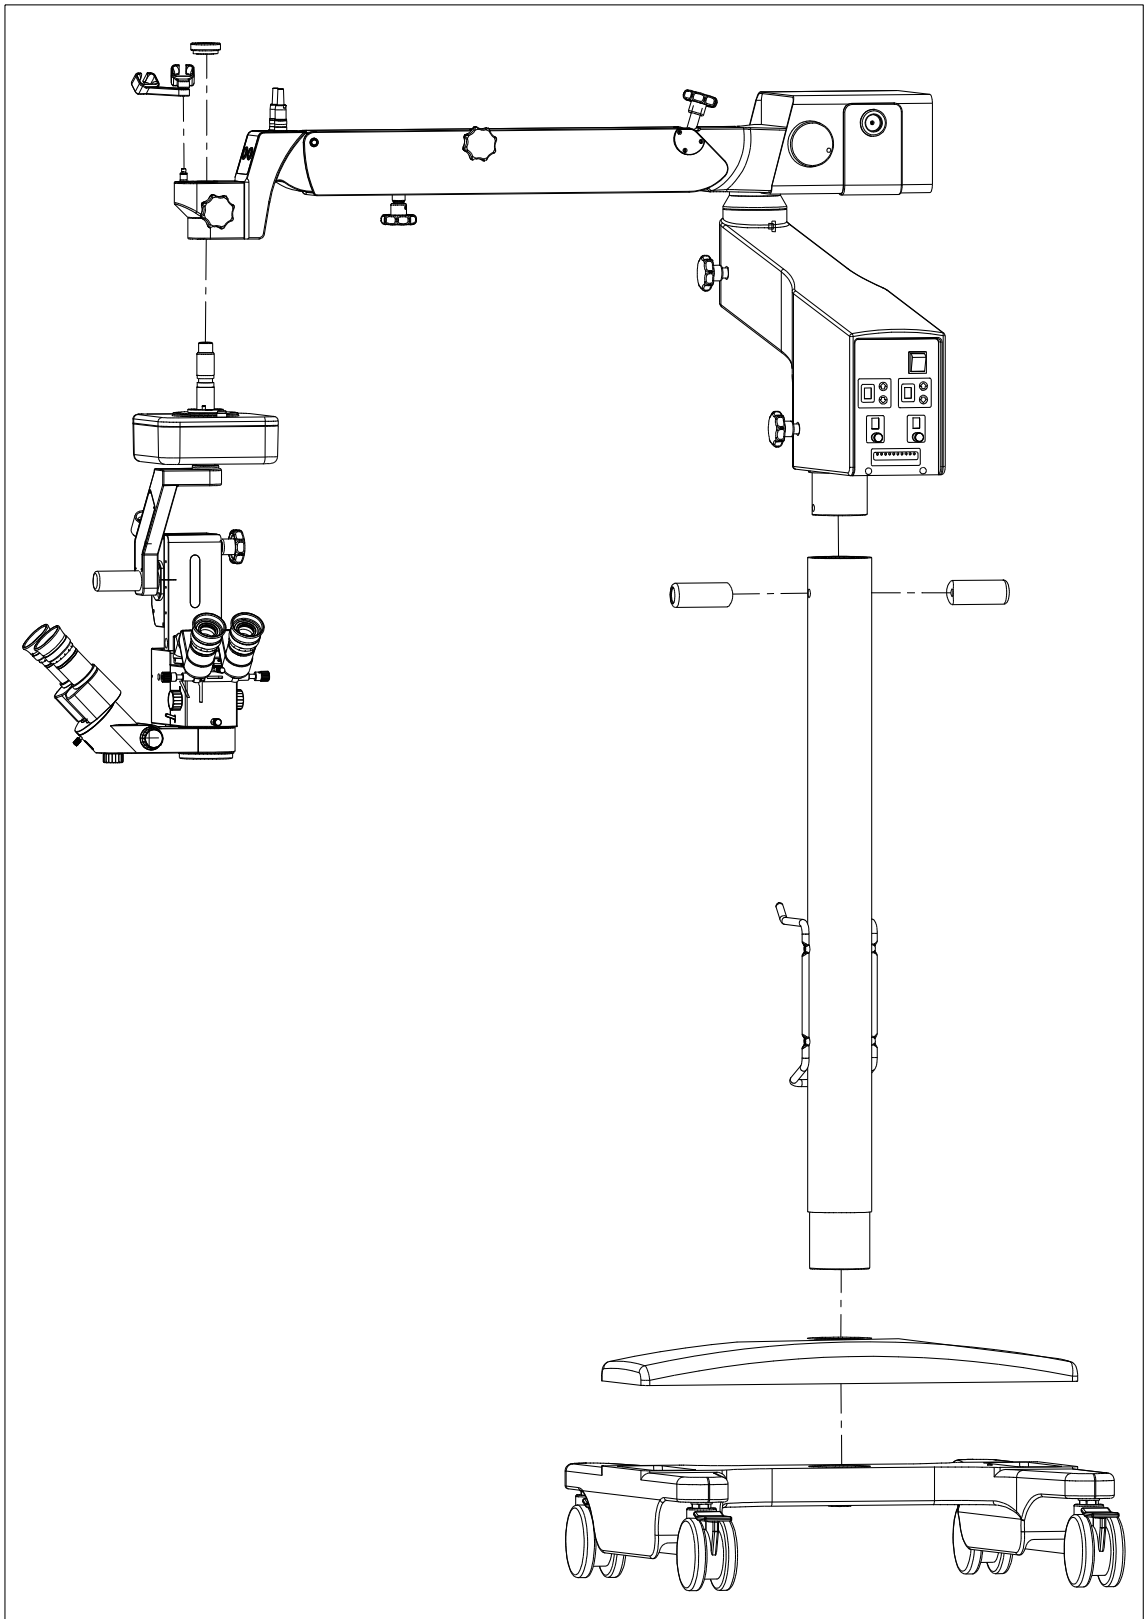

Fig.4- Disperse Fig.
Take out the plastic cover, the moving handle[17] and the hexagon screws. Take out the arm from the packing case and assembly it to the column, then screw down the 2 hexagon cone screws with the 4mm hexagon spanner. Assembly the decorative hoop[17], the moving handle, the hexagon screws, and screw down them with the 8mm hexagon spanner, then screw the plastic cover on the top of the column with the moving handle[19](indicated in Fig. 4).
- 3.4.6 Connect the 8-pin plug of the holding arm with the 8-pin socket[8] of the Second Arm. Notice that the inner groove of the plug should comply with the direction of the notch of the socket edge during the connection(indicated in Fig. 4).
- 3.5.2 Insert the fiber optics into the hole of the rotation connector[8], then pull it through the protection tube[5] behind the inclination arm, then plug the fiber optics[37] into the hole[38] of the illuminator(indicated in Fig.4).
- 5.1.1 Connect the cable plug of the foot control switch to the socket[50] at the bottom of the column panel indicated in Fig.4). The notch of the plug should comply with the protuberant